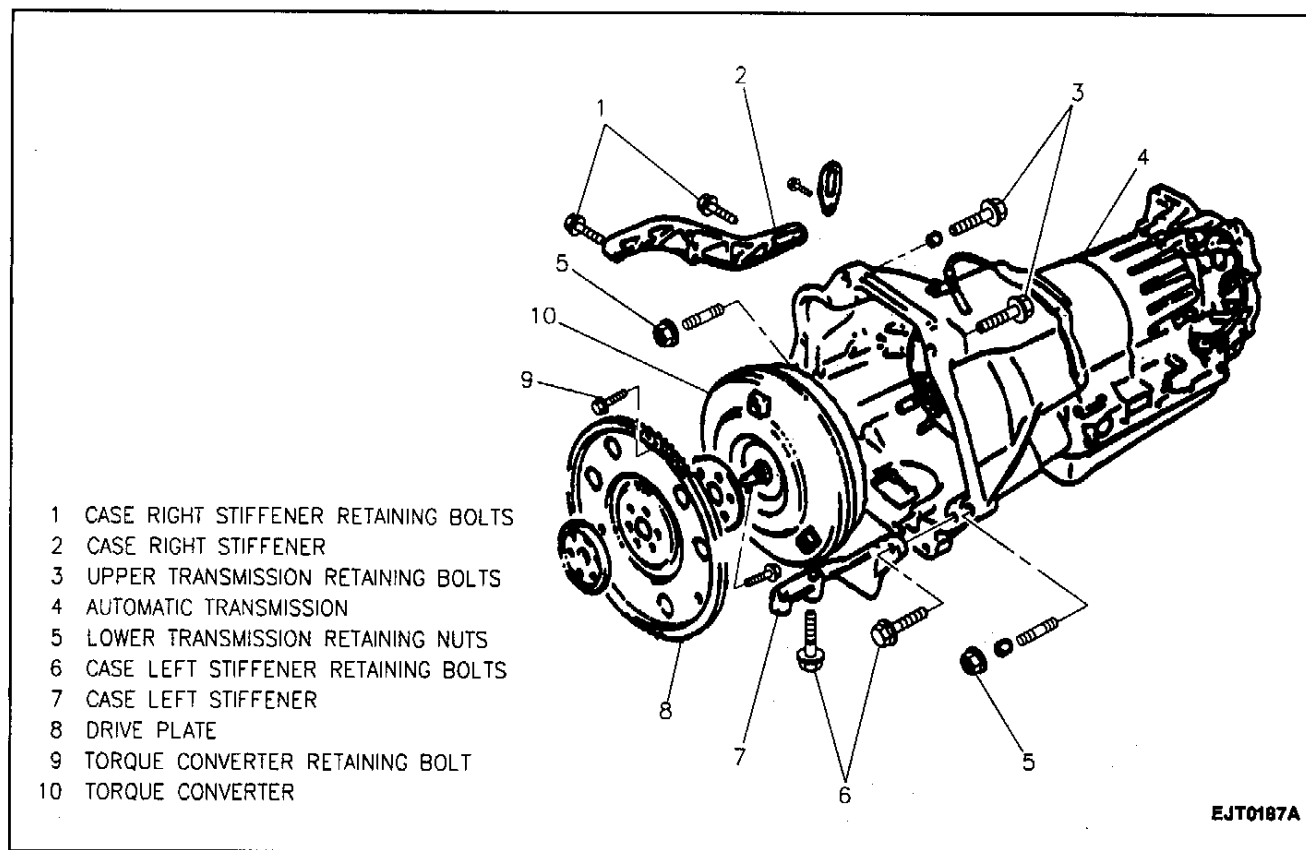

Figure 123—Transmission Attaching Components (03-72LE, 4-Speed)
35. Four bolts and case right stiffener from engine and transmission (03-72LE, 4-speed models only) (Figure 123).
36. Four bolts and case left stiffener from engine and transmission (03-72LE, 4-speed models only) (Figure 123).
11. Left and right case stiffeners to transmission to engine, secure with four bolts each (03-72LE, 4-Speed) (Figure 123).